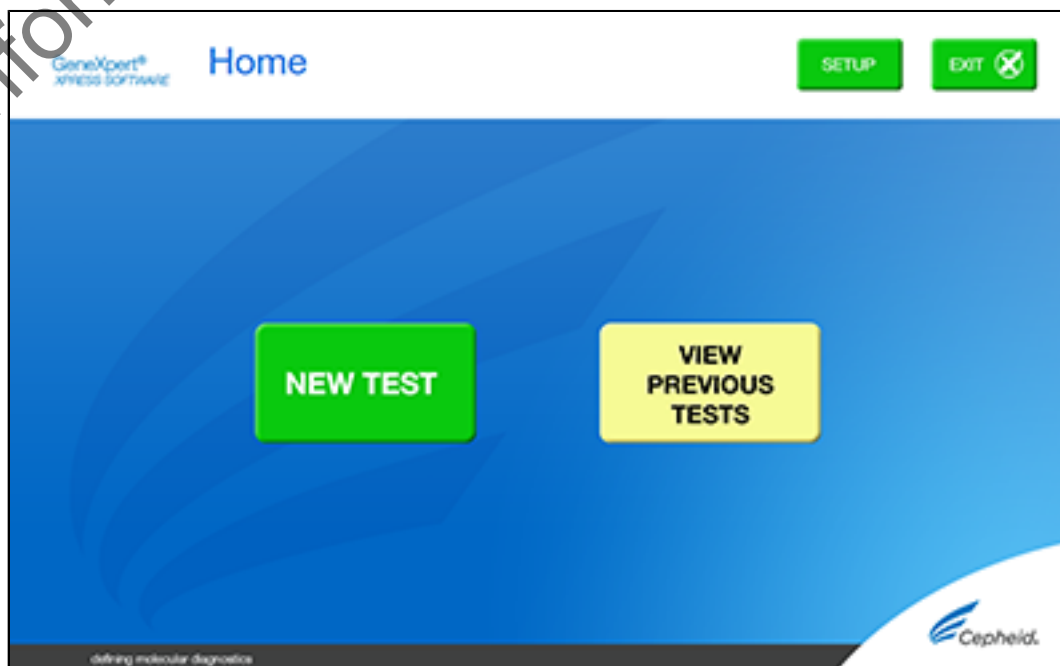

Figure 10. VIEW PREVIOUS TESTS button on Home Screen
1. Touch the **VIEW PREVIOUS TESTS** button on the **Home** screen shown in Figure 10.